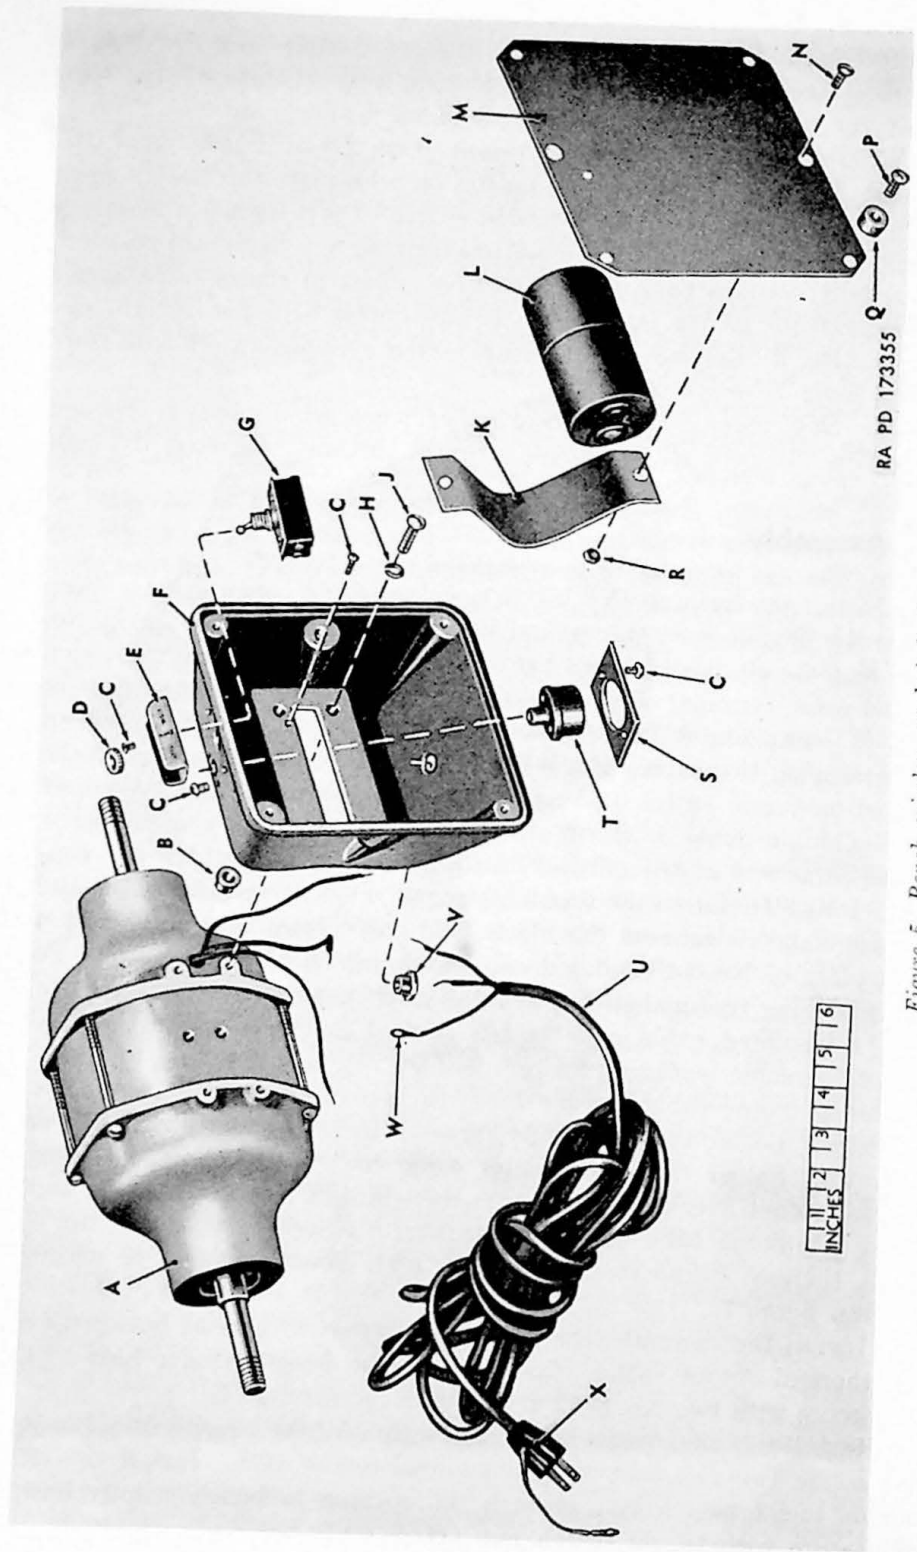

Figure 5. Bench grinder—exploded view.
Note. The key letters noted in parentheses are in figure 5.
d. Position the 6-MFD 330-volt motor capacitor (L) on the grinder base cover (M), place capacitor clamp (K) over the motor capacitor and secure with two No. 10-32 x $\frac{1}{2}$ roundhead screws (N) and two No. 10-32 x $\frac{3}{8}$ wd x $\frac{1}{8}$ thick hex plain nuts (R).
a. Install the bench grinder base (F, fig. 5) on the motor assembly (A) and secure with four $\frac{1}{4}$ -20 x 1 roundhead screws (J) and four $\frac{1}{4}$ -inch bolt size split lock washers (H).
b. Install the grinder base cover on the bench grinder base, and secure the cover to the base with four rubber feet (Q), one on each corner of the cover, and four No. 10-32 x $\frac{1}{4}$ flathead screws (P).
a. Remove four through bolts (K) and four lockwashers (J), which secure the right and left end plates to the motor assembly, and remove the end plates from the motor field by tapping with a mallet. Scribe correlation marks across the left and right end plates and the motor field (G) at their points of junction. Remove bushing (B, fig. 5) from underside of right end plate.
b. Remove motor armature (F) from the motor field (G). Remove bearing guards (B) from the bearing cavities in the end plates.
c. Pry open the tight sleeves (C) with a small chisel and remove the sleeves from the motor armature shaft.
a. Install the ball bearings (D) onto the motor armature shaft so that they fit firmly against the respective shoulders of the shaft.
b. Install the tight sleeves (C) on the armature shaft and press the sleeves against the ball bearings to secure the ball bearings on the armature shaft.
c. Install the bearing guards (B) into the bearing cavities in the end plates. Install 110-volt motor armature (F) in the 110-volt motor field (G). Observing the correlation marks on the left and right end plates and motor field made during the disassembly operation, install the left end plate (A) and the right end plate (H) on the motor field and be sure the ball bearings are seated in the bearing opening of each end plate. Be sure that the three cables from the motor field are put through the opening in the right end plate. Secure the end plates to the motor assembly with four through bolts and four $\frac{1}{4}$ -inch bolt size split lockwashers (J). Slide the bushing (V, fig. 5) over the three cables leading from the motor field and install bushing in the opening of the right end plate.